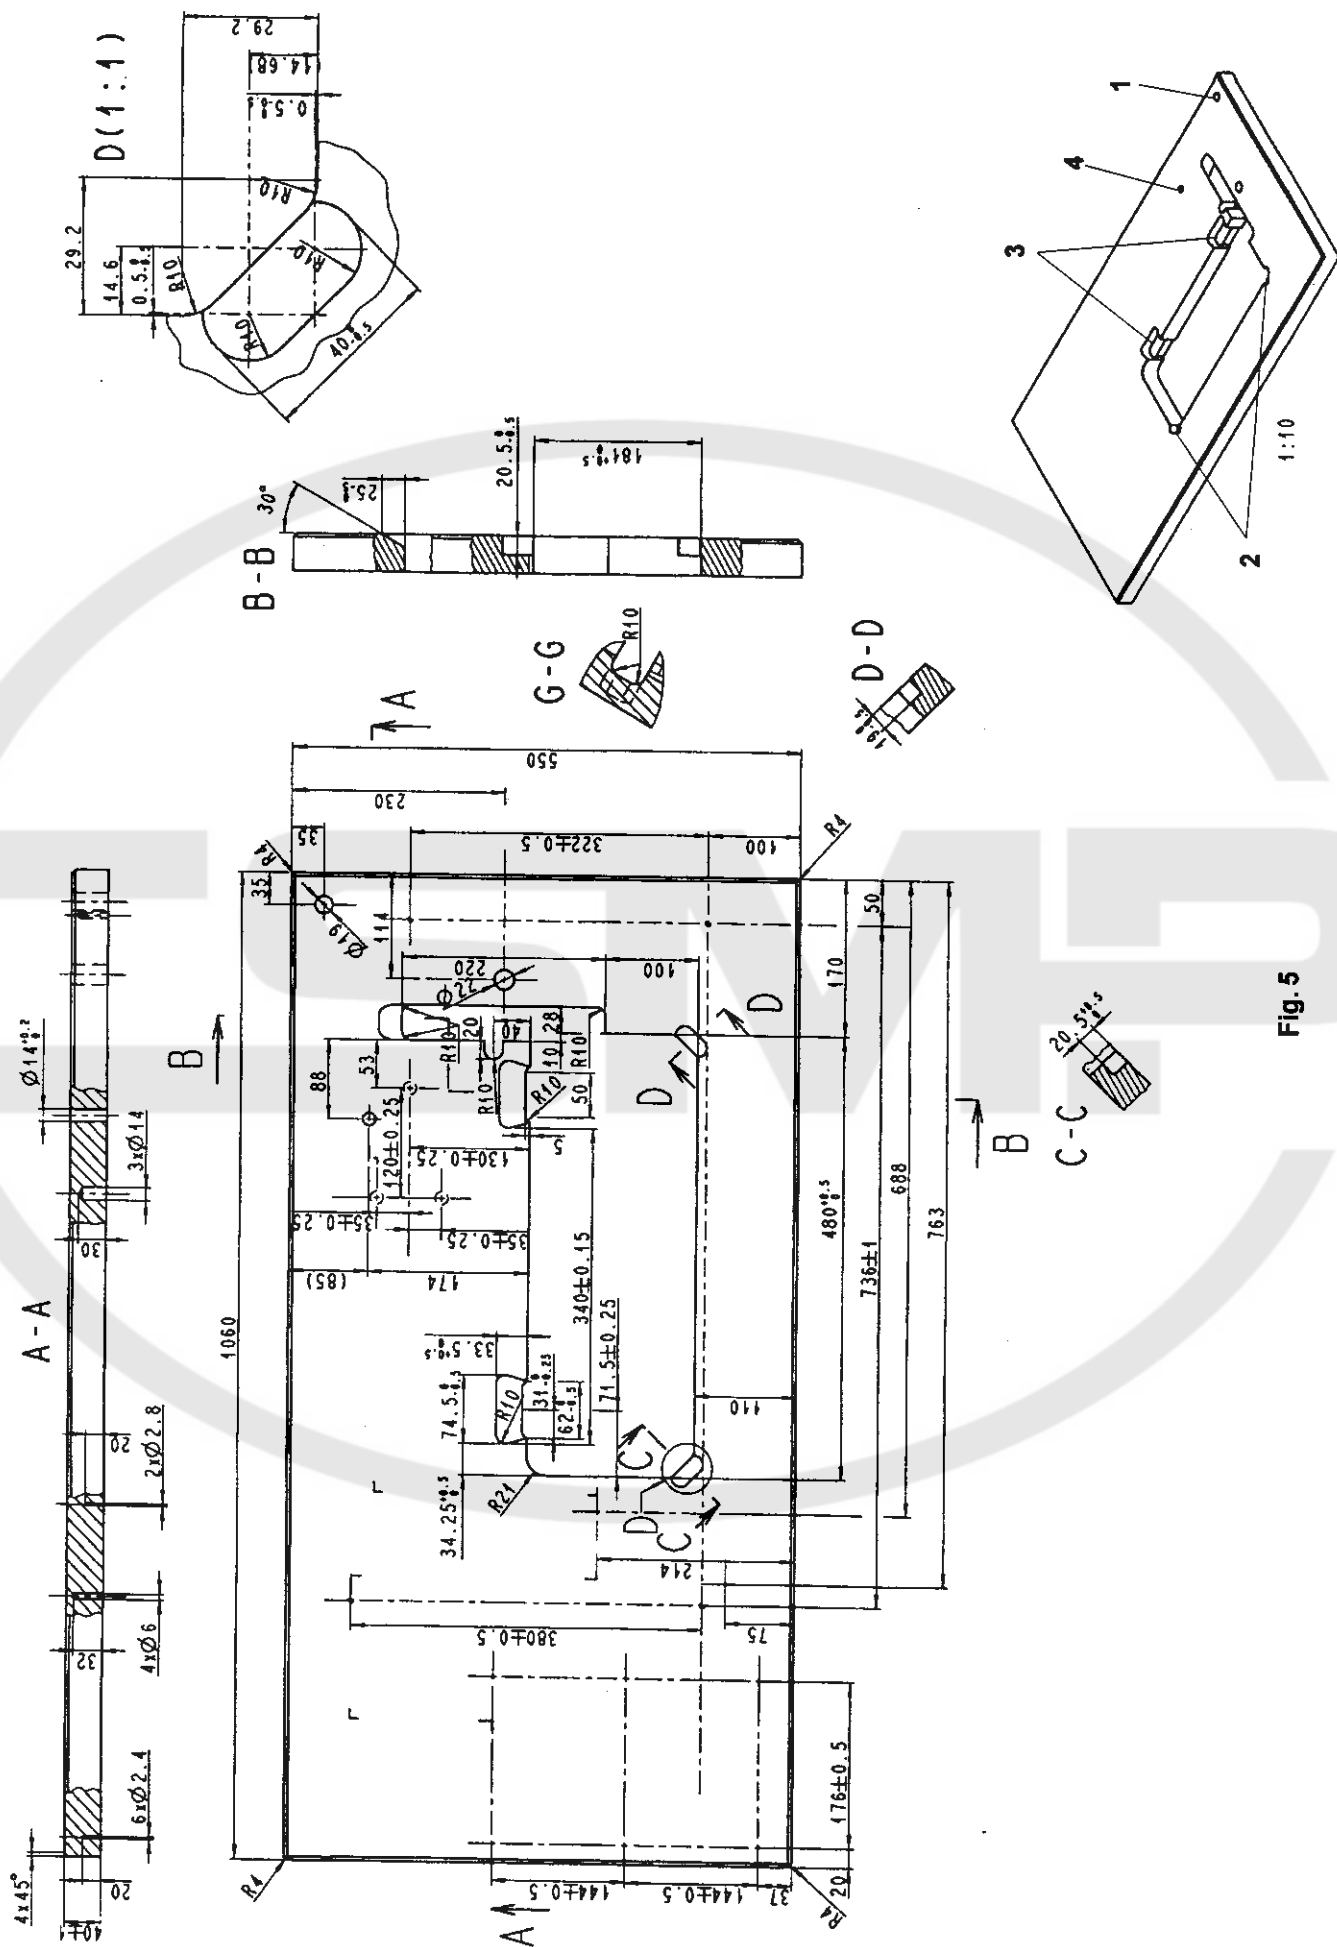
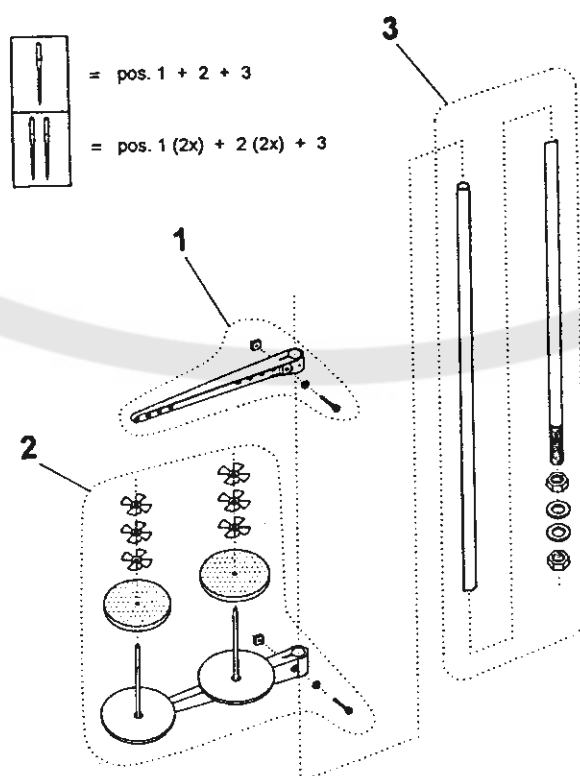

Fig. 5
Fig. 6
Insert into the recesses (2 and 3, Fig. 5) the rubber inlays serving for mounting the machine head into the stand plate, and preferably fix them by sticking them on. When mounting the oil tank (1, Fig. 2) be sure that the inner side of its walls is overlapped by the value "X" by the circumference of the slot of the stand plate (2).
The machine head is fitted with installed hinges. Remove the lower covering sheet of the head and insert the machine into the stand plate. Insert into the hole (4, Fig. 5) the support pin included in the machine accessories.
Inspect the machine thoroughly and check whether it revolves freely and is adjusted correctly. Mount the bobbin stand as shown in Fig. 6 and insert it into the hole (1) - see Fig. 5.